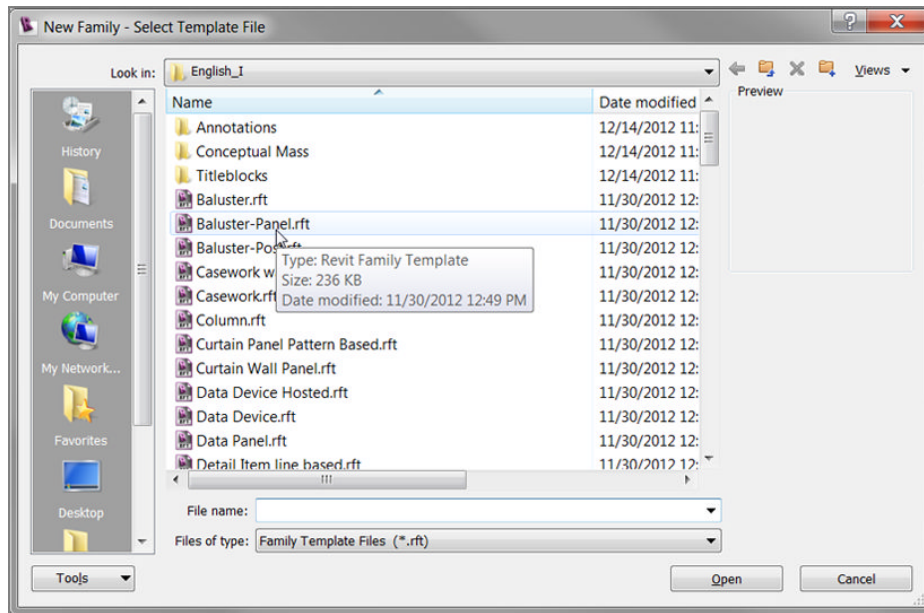

FIGURE 1.56: The creation of a family starts with templates.
1. Click the Application button, and select New > Family to open the browse dialog shown in Figure 1.56.